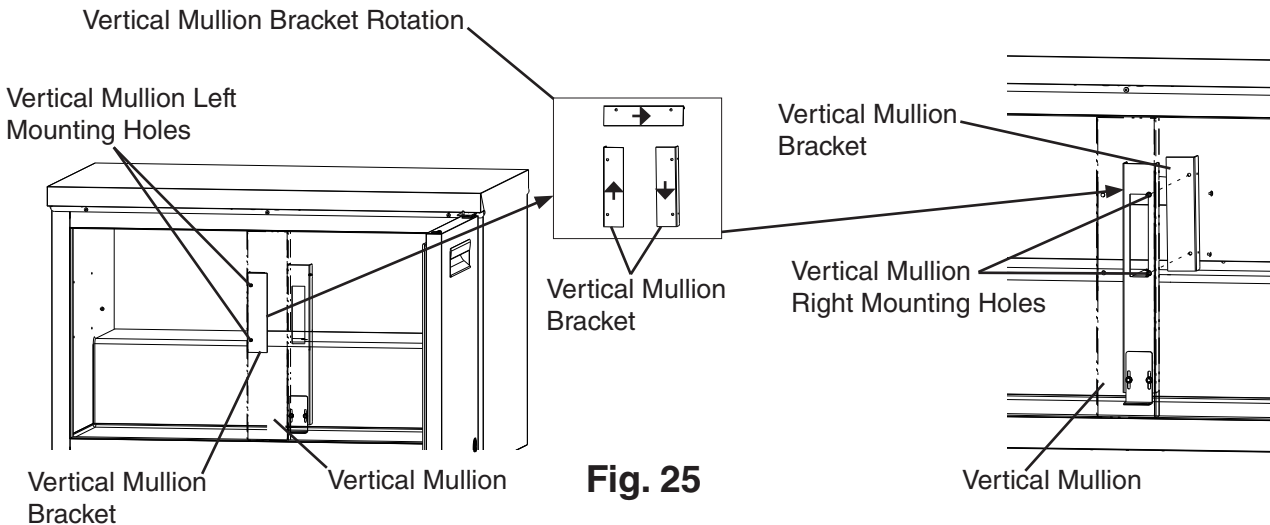

Fig. 25
7) Remove the vertical mullion bracket. Rotate 180 degrees and mount it in the vertical mullion right mounting holes. See Fig. 25.